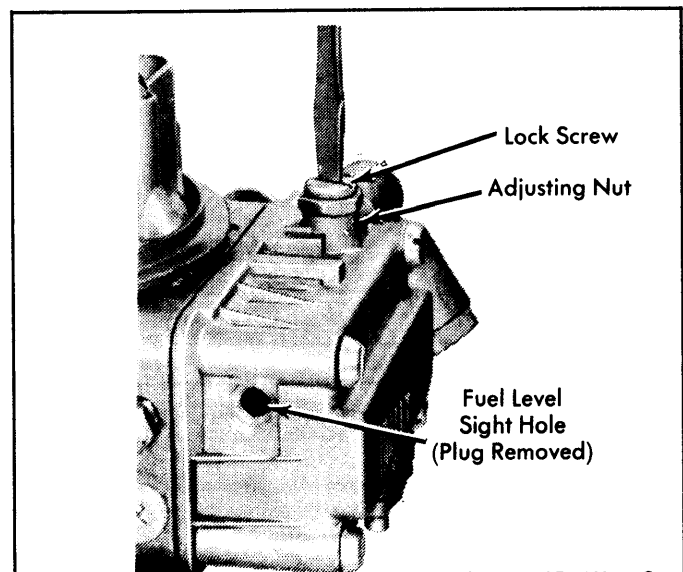

Fig. 3: Float Level Adjustment (Wet Setting)
1) With engine at normal operating temperature, place vehicle on a flat, level surface. Remove air cleaner. Check fuel level at each float bowl separately. See Fig. 3.